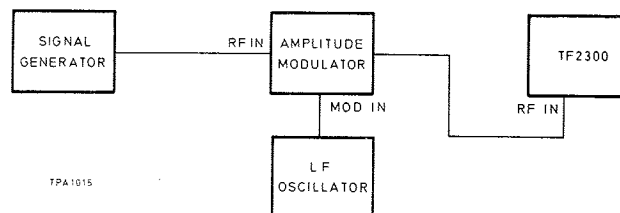

Fig. 4.7 A.M. rejection measurement
- (1) Set up the equipment as shown in Fig. 4.7. Adjust the signal generator to give a c. w. output of 100 mV at any convenient frequency. Adjust the l. f. oscillator frequency to 1 kc/s at a level which gives 80% modulation as measured on the TF 2300.
- (2) On the TF 2300 set the Function switch to TUNE and the OSCILLATOR TUNE control to give maximum meter reading. Then adjust the LEVEL control for a reading within the black arc.
- (3) Switch to F. M. - SET FREQ and adjust the